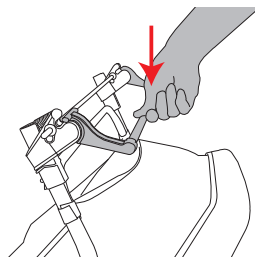

Figure 5
- Push the bar linking the brake levers into the disengaged position. See Figure 5.